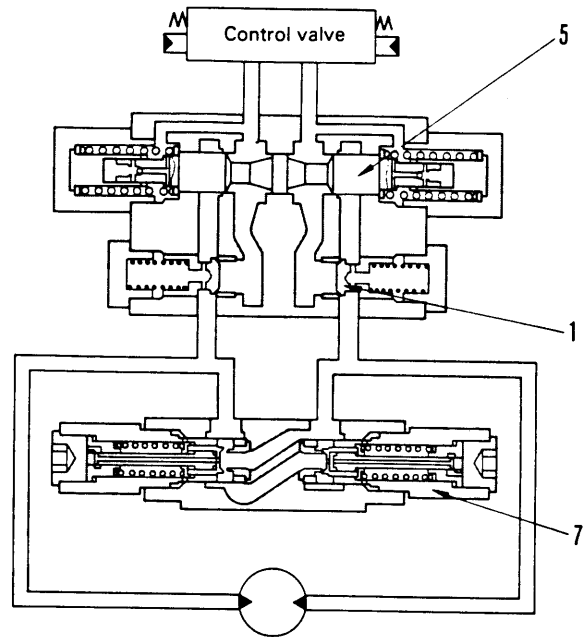

Fig.1
- The brake valve consists of a counterbalance valve (5), check valve (1) and safety valve (7) in a circuit as shown in the diagram on the right (Fig. 1)